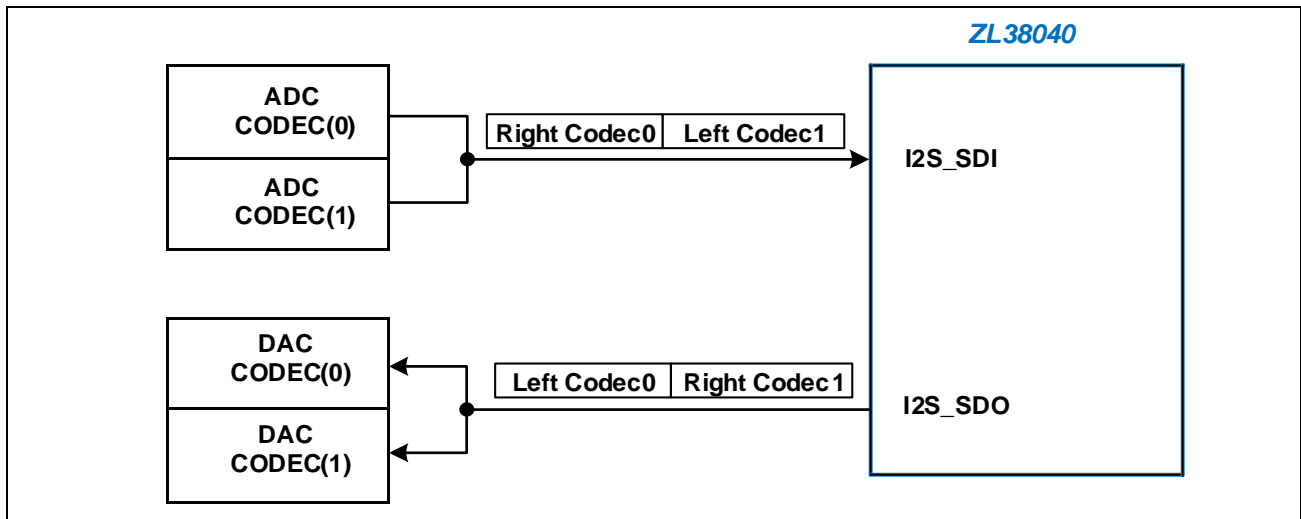

Figure 11 - Dual Codec Configuration
Each I²S interface can support one dual channel Codec (Figure 11) through the Codec's I²S interface. The four 16-bit channel processing capacity of the DSP is spread across the two input channels from the ADCs of Codec(0) and Codec(1), and the two output channels to the DACs of Codec(0) and Codec(1).